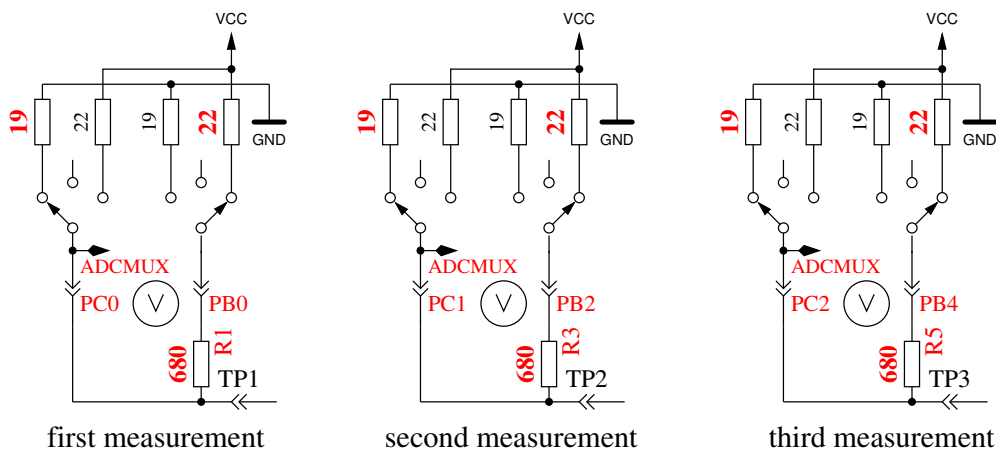

Figure 5.37: Measurement of internal resistance of Port C switched to GND
5. **This step tests the capability of GND (-) connected 470kΩ resistors (H) to pull the test pins to GND.** Row 1 shows the text “RH-”. Row 2 should display zero for all three pins.
6. **This step tests the capability of VCC (+) connected 470kΩ resistors (H) to pull the test pins to VCC (+).** Row 1 shows the text “RH+”. The best value for this three measurements is 5001. Great differences from the best value for test 5 and 6 are errors such as isolation problem, flux material or damaged port.
7. **Measuring of internal resistance of pin output switched to the GND signal.** The text in the 1st LCD row is “Ri.Lo = (mV)”. In the second row of the LCD three voltages were displayed. The internal resistance of the port C outputs switched to GND (-) are measured with the current of to VCC (+) switched 680Ω resistors, see Figure 5.37. Only the three pins of the ADC port are measured, the resistor port B (PB0, PB2 and PB4) can not be measured without hardware modification. It is assumed that the port resistance of the different ports are nearly identical. To get the resistor values, you must divide the displayed mV values by about 7 (see test 8).